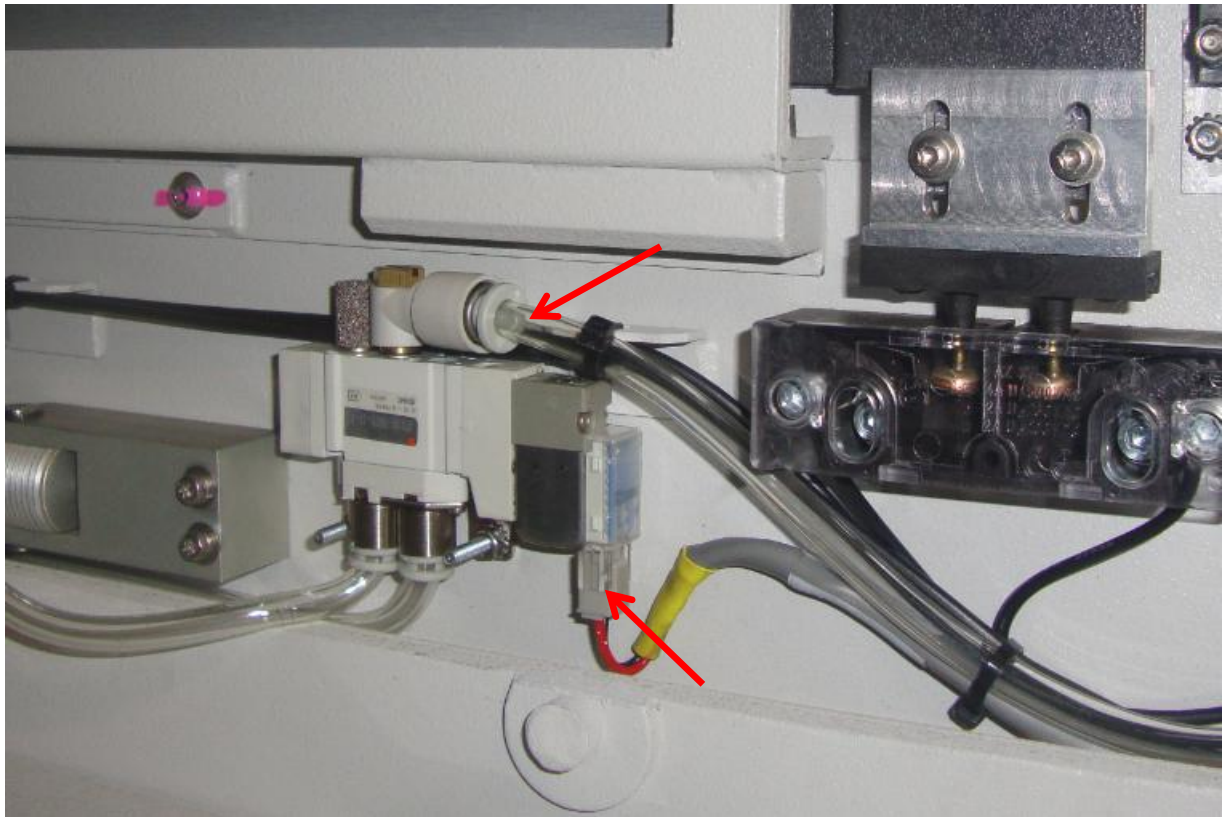

Figure 5
7. Remove 1 x Tubing from Outer Barrier Solenoid (Inlet Port) as below Figure 5. Disconnect Input cable as well.